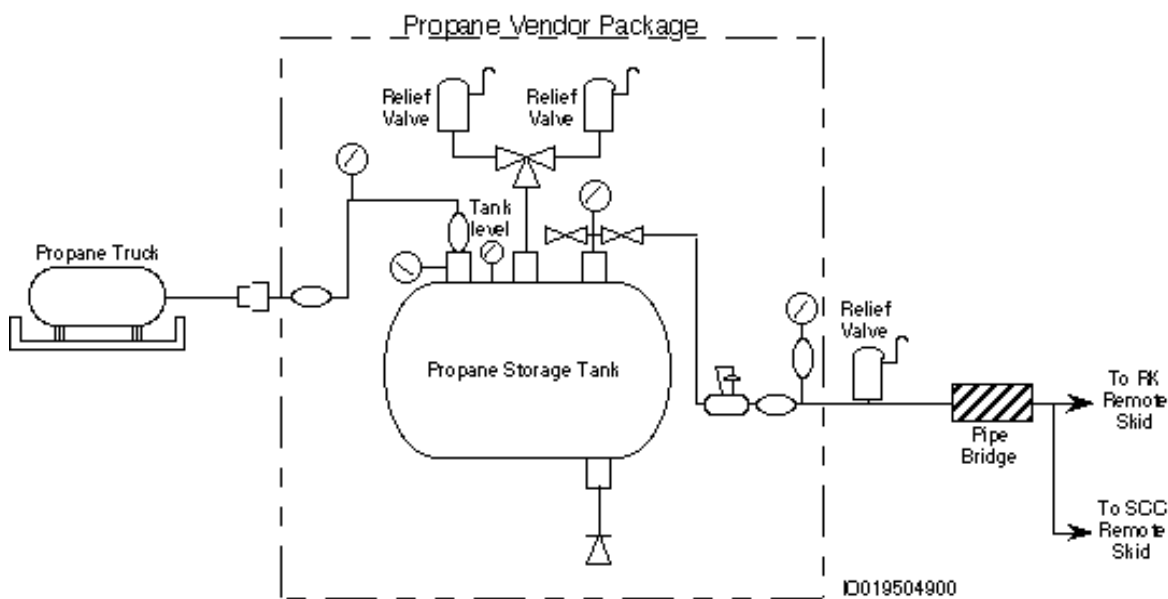

Figure 8 Propane Ignition System
Since the propane storage tank pressure varies from 58 to 220 psig with changes in ambient temperature and changes in level, the tank and the pipe line upstream of the first pressure reducing valve are protected from over pressurization by two(2) pressure relief valves with a setpoint of approximately 250 psig. The pipeline downstream of the first pressure reducing valve is protected from over pressurization by a pressure relief valve with a setpoint of approximately 22 psig (See Figure 8, *Propane Ignition System*). When not in use, propane will be isolated and the downstream lines vented to atmosphere via the solenoid valves at the remote and local skids.